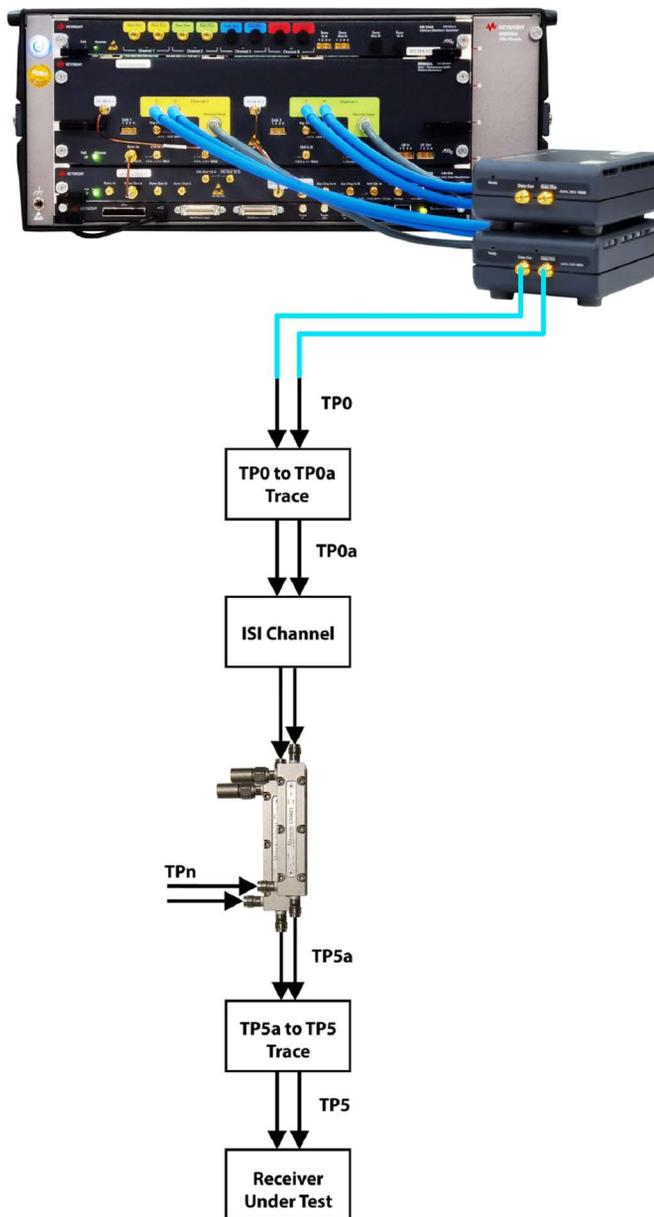

Figure 60 Test setup for Rx Jitter Tolerance Test without channel noise
- 1 Using the test setup in Figure 60 and the transmitter taps (but without the channel noise) as determined in the calibration procedures, configure the transmitter to transmit the test pattern specified in the PMD clause that invokes this method.